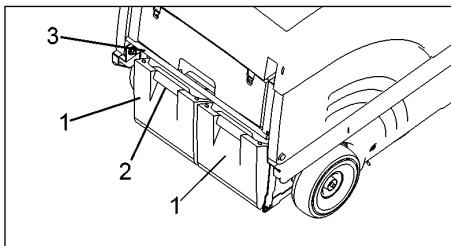

Fig.8
- Fold bow (Fig. 8/3) up
- = the dirt hoppers (Fig. 8/2) are lowered.
- Use the recessed grip (Fig. 8/1) of one of the hoppers to lift it lightly and extract it.
- Re-insert hopper (Fig. 8/2) and fold down the bow (Fig. 8/3).